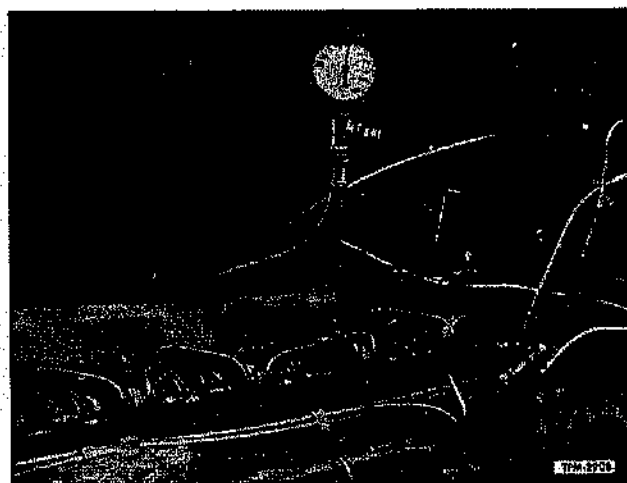

Figure 3—Checking Compression Pressure
3. Remove the injector from No. 1 cylinder, then install adapter and pressure gauge in its place as shown in figure 3.